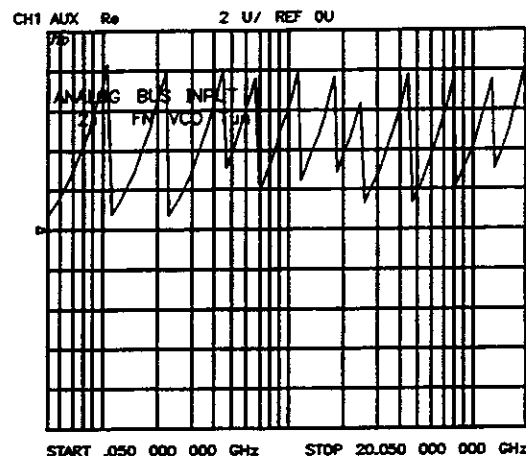

Figure 10–2. Fractional–N Tuning Voltage Waveform at Abus Node 21
Press **RECALL** **RECALL FAC PRESET** **SYSTEM** **SERVICE MENU** **INPUT PORTS** **ANALOG BUS** **9** **x1** to view the 0.25V/GHz signal to the YIG oscillator drives. Note that for each band, the waveform should start and stop exactly as shown in Figure 10–1, with only one ramp in each band. A problem in one band should not affect the appearance of the waveform in other bands.
Fractional–N Checks With ABUS. Press **MENU** **SWEEP TYPE MENU** **LOG FREQ** **SYSTEM** **SERVICE MENU** **INPUT PORTS** **ANALOG BUS** **2** **1** **x1** and compare the fractional–N tuning voltage to Figure 10–2.
- If the voltage waveform resembles Figure 10–2 but the counter values do not match Table 10–1, A14 is almost certainly faulty.
Connect an oscilloscope to A14TP1 (labeled VCO/2). Press **RECALL** **RECALL FAC PRESET** **SYSTEM** **SERVICE MENU** **SERVICE MODES** **FRAC N TUNE ON**. Vary the fractional–N VCO frequency with the RPG knob. If the waveforms do not resemble Figure 10–3 at the frequencies indicated, replace A14. (The amplitude of the waveforms will vary from 3V to 10V p–p.)